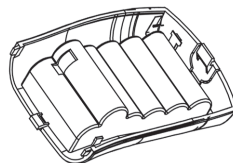

Figure 3
2. Insert the battery pack. See Figure 3.